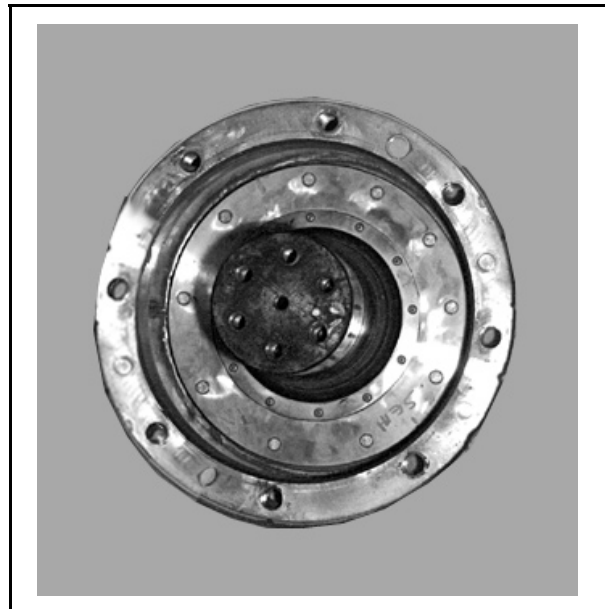

FIGURE 11 (MSSM0275AE)
2. Unbolt and remove *seal holder* (FIGURE 11).